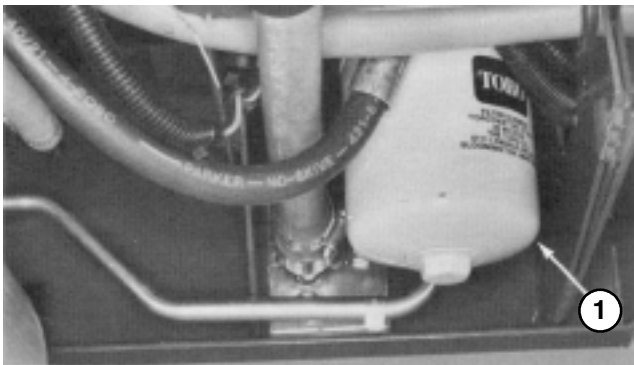

Figure 29
4. Remove oil filter (Fig. 29), mounted below control panel base, and discard filter. Thoroughly clean filter mounting surface and make sure a new gasket is installed in new filter.